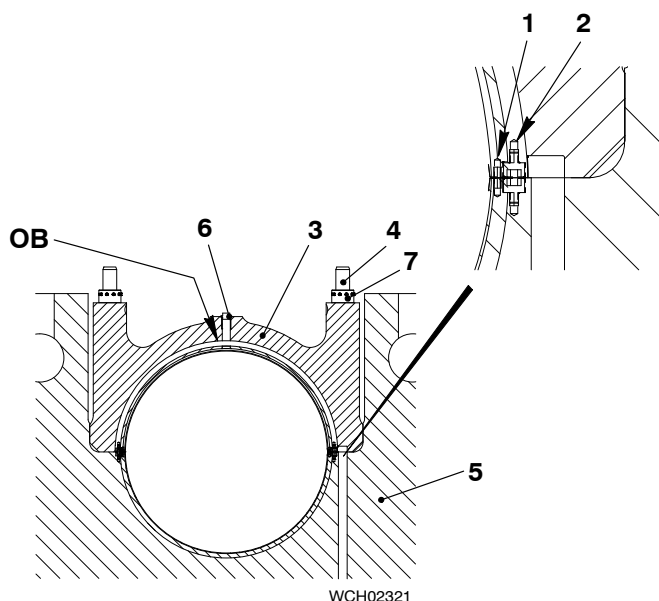
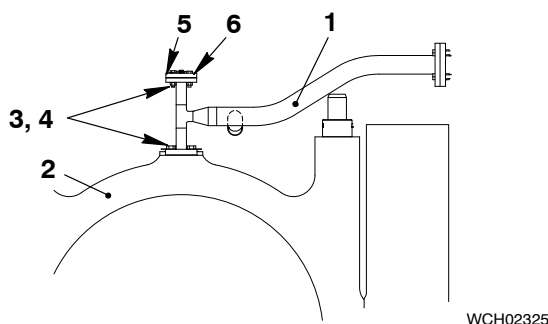

Fig. 24
Fig. 25
- 2) Remove all plugs from the oil bore (OB).
**Note:** The top bearing shell is attached to the cover with two Allen screws (2, Fig. 24). The spring dowel pins (1) help to get the bearing cover (3) in position during the installation.
- 4) Clean all surfaces on the the bearing cover (3) and the bearing girder (5).
- 5) Lower the bearing cover (3) on to the bearing girder (5). Make sure that the two spring dowel pins engage correctly.
- 6) Apply tension to the elastic studs (4), refer to 1132-1.
- 7) Tighten the round nuts (7).
- 8) Clean the pipes (1, Fig. 25).
- 9) Install the pipes (1), their gaskets and new tab washers (4).
- 10) Tighten the screws (3).
- 11) Lock the screws (3) with the new tab washers (4).
- a) Remove the blank flange (6, Fig. 25).
- b) Remove the screw plug (5).
- d) Attach the blank flange (6) with the screw plug (5).